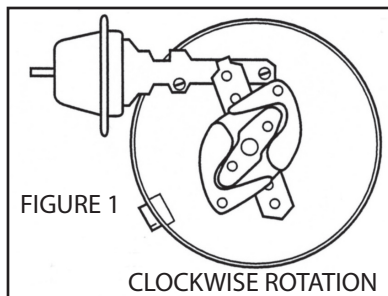

FIGURE 1
3. Clockwise rotation distributors: Install the new center plate as shown in Figure 1.
Counterclockwise rotation distributors: Turn the center plate and centrifugal weights over from Figure 1. Replace "E" clips.